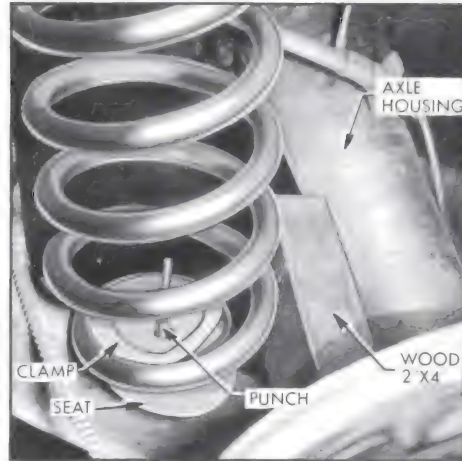

Figure 7-24—Wood Block Behind Rear Spring
between lower end of spring and axle housing. See Figure 7-24. This assembly aid holds the spring forward on the lower control arm to facilitate attachment of the spring to the lower control arm.
4. Disconnect shock absorber at lower end. Lower rear axle assembly to allow positioning of spring in its seat on the lower control arm. Place a short piece of 2 x 4 between the lower end of the spring and axle housing. See Figure 7-24. This assembly aid holds the spring forward on the lower control arm to facilitate attachment of the spring to the lower control arm.